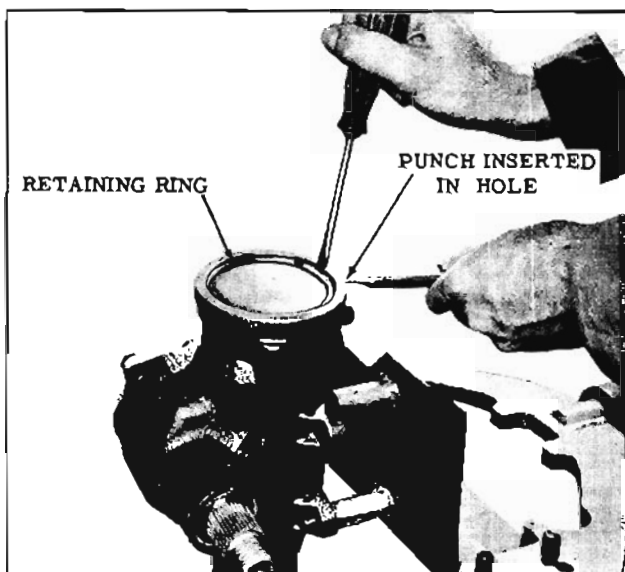

Fig. 8-44 Removing End Cover Ring
1. Rotate end cover retaining ring so that one end of the ring is over hole in side of housing then force end of ring from its groove and remove ring. (Fig. 8-44)